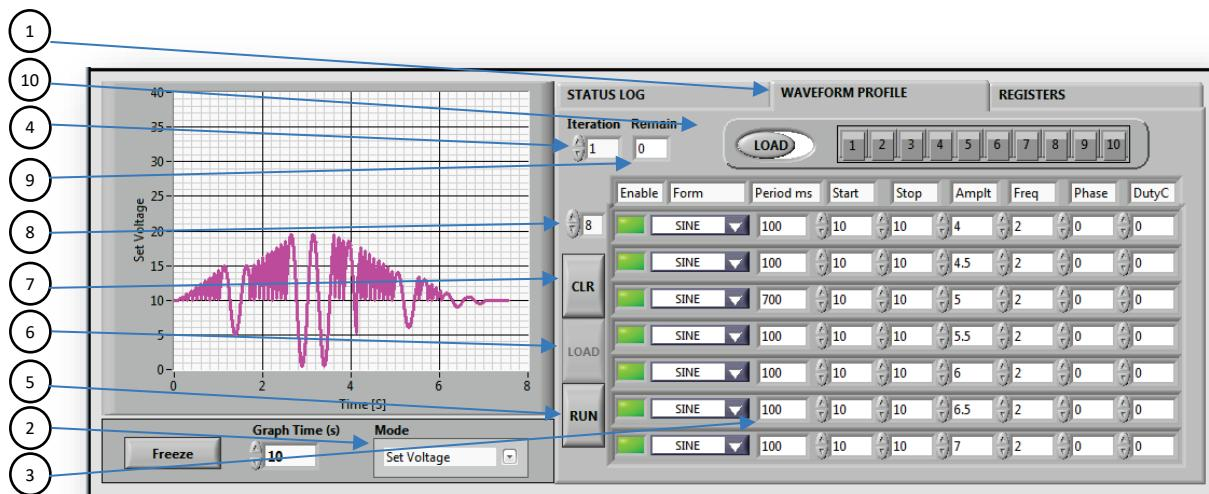

Figure 27
- 2.1. Select “WAVEFORM PROFILE” (1). Refer to Figure 27.